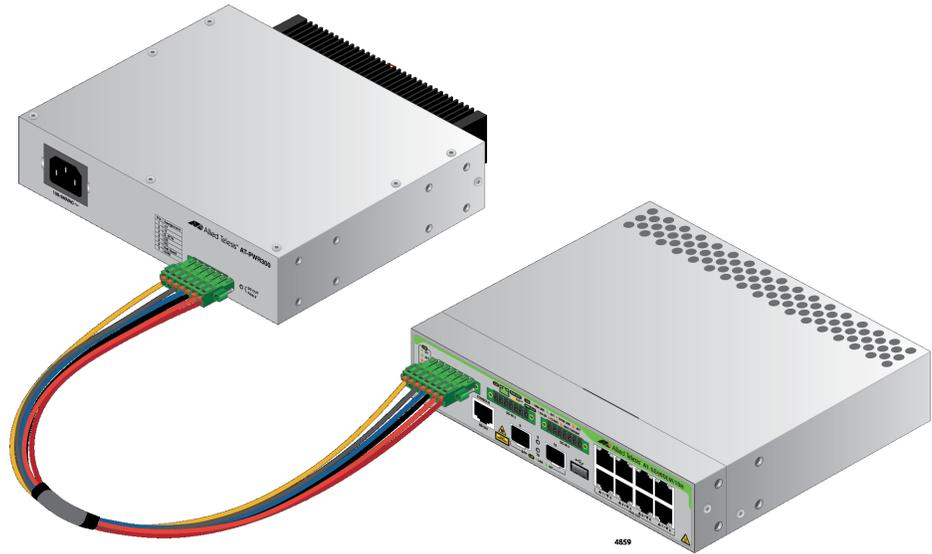

Figure 63. Connecting the PWR300 Power Supply to the GS980EM/10H Switch
3. Connect the other end of the external harness to the PWR300 power supply. Refer to Figure 63.